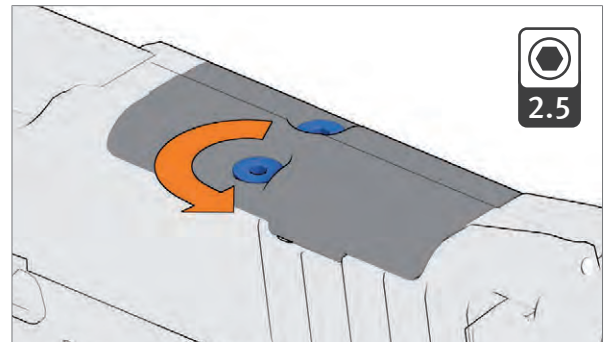

Fig. 31: Loosen screws
1. Loosen screws and remove (Fig. 31).